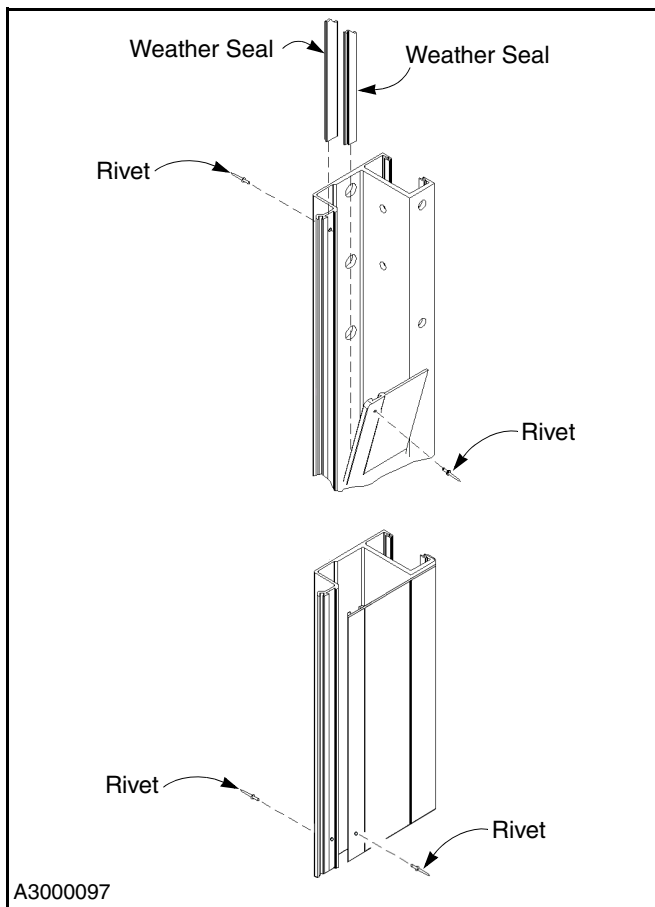

Figure 40
1. Drill out rivets in side column and remove old seal. (See Figure 40.)